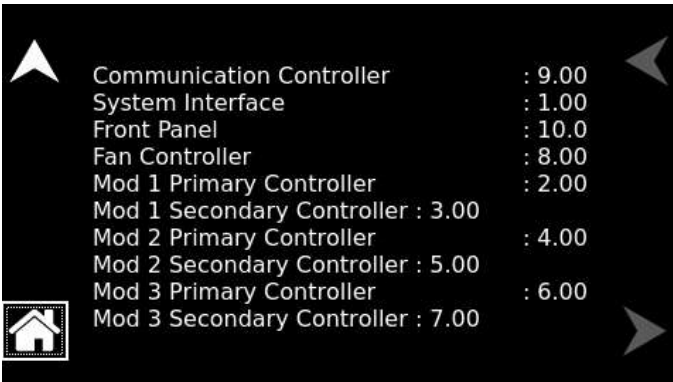

*Figure 13-61. Firmware Version*
**Firmware Version** Displays information about the configuration of the power supply, including the Communication Controller, System Interface, Front Panel, Fan Controller, Mod 1 Primary Controller, Mod 1 Secondary Controller, Mod 2 Primary Controller, Mod 2 Secondary Controller, Mod 3 Primary Controller, Mod 3 Secondary Controller. This information helps identify the unit. Refer to Figure 13-61.